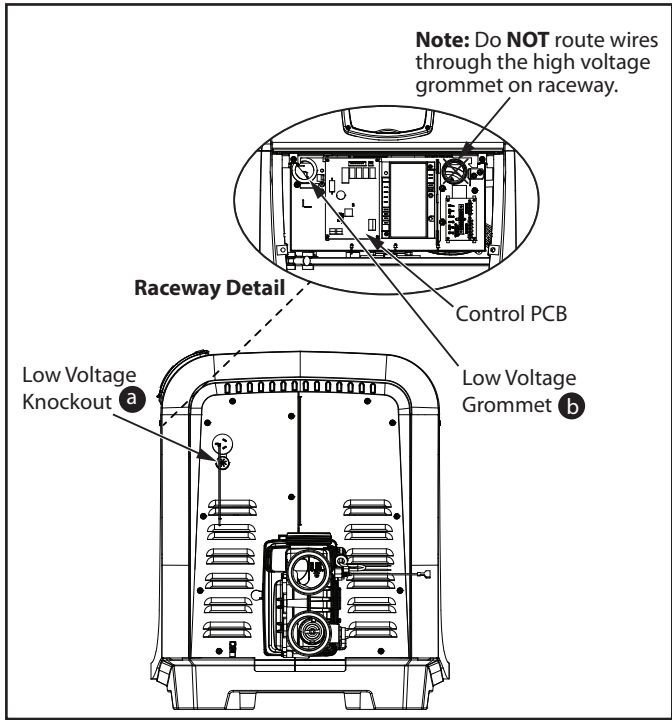

Figure 22. Low Voltage Knockout Location for Connection
- Run the wires from the pool/spa control system through the low voltage knockout on the right or left-hand side of the heater. See *Figure 22*.